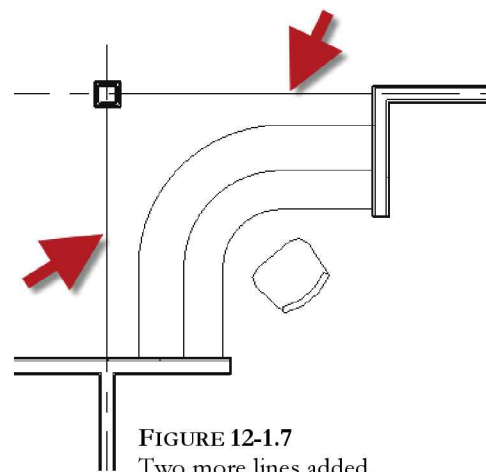

FIGURE 12-1.7
14. Add two more *Room Separation Lines*, on Level 1, at the Admin Asst. Receptionist area (Figure 12-1.7).